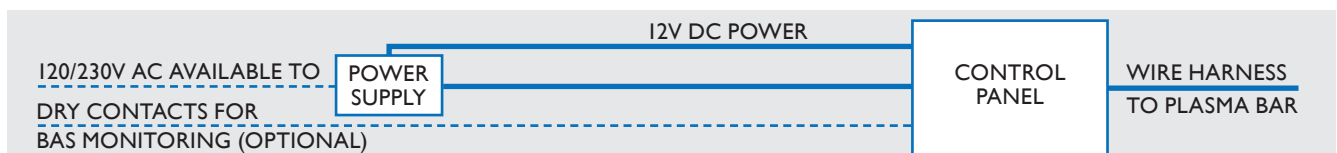

FIGURE 3
- **OPTION 1:** Connect 24V AC directly to the power input terminal block on the control panel where indicated. The line and neutral wires can be connected to either screw terminal. (See Figure 3 & 4).
- **OPTION 2:** Use a factory supplied 120V/230V AC to 12V DC power supply. A 12V DC 2.1mm pin connector shall be inserted into the 12V DC in/out pin located on the control panel. (See Figure 3 & 4). Do not use an extension cord.